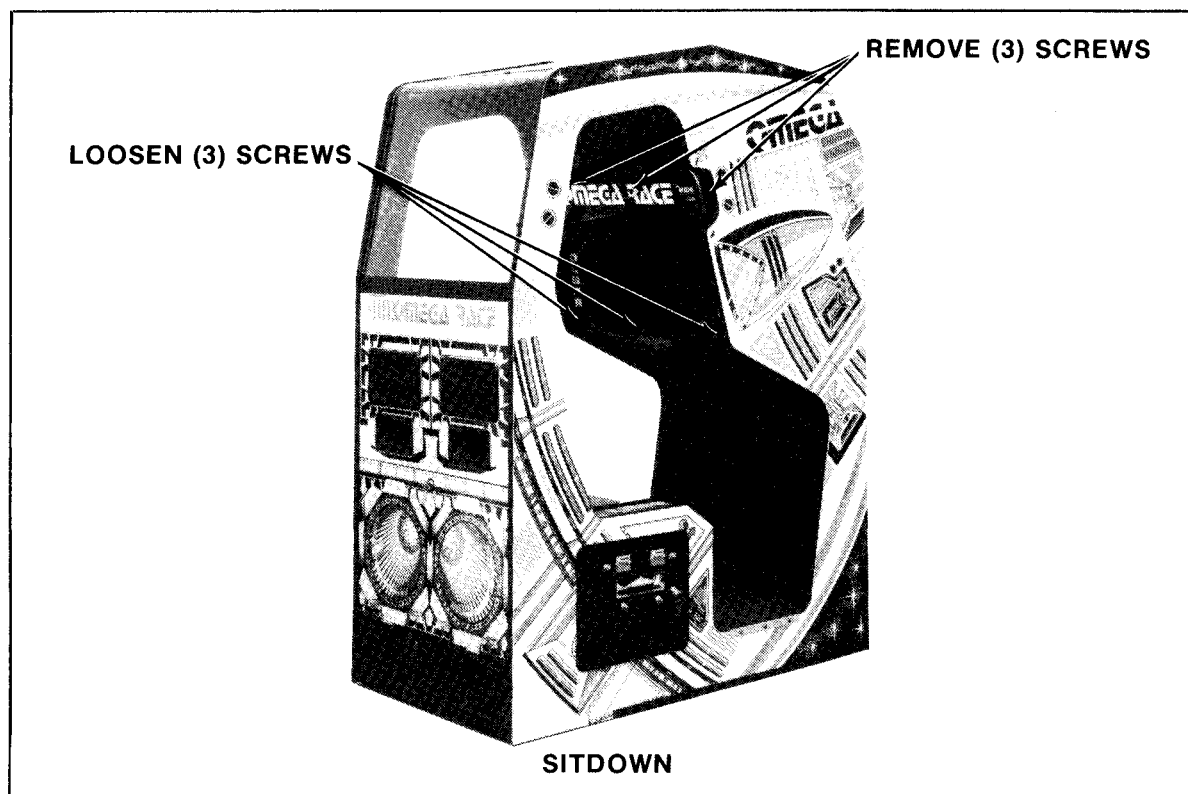

FIGURE 26
- b. Loosen the three screws in the control panel at the bottom of the main-display-glass. See Figure 26.
- c. Loosen **and remove** the three screws at the top of the main-display-glass. See Figure 26.